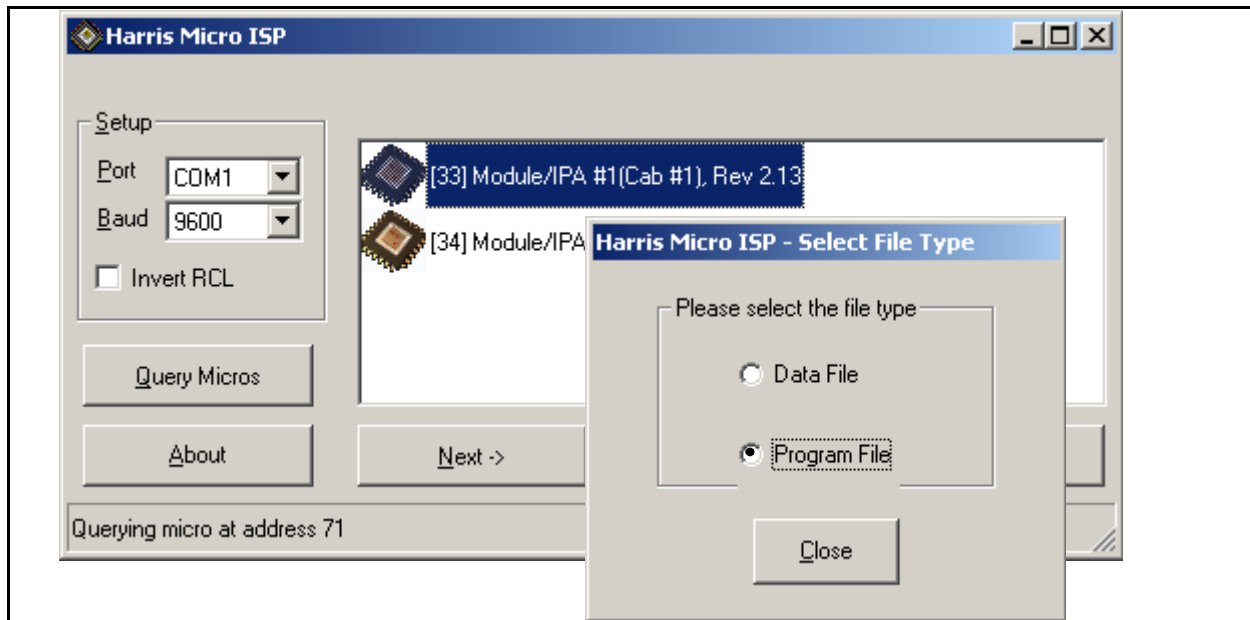

**Figure 6-9** ISP Opening Screen
- STEP 3** Run the “Harris ISP.exe” program. The window shown in Figure 6-9 should open.